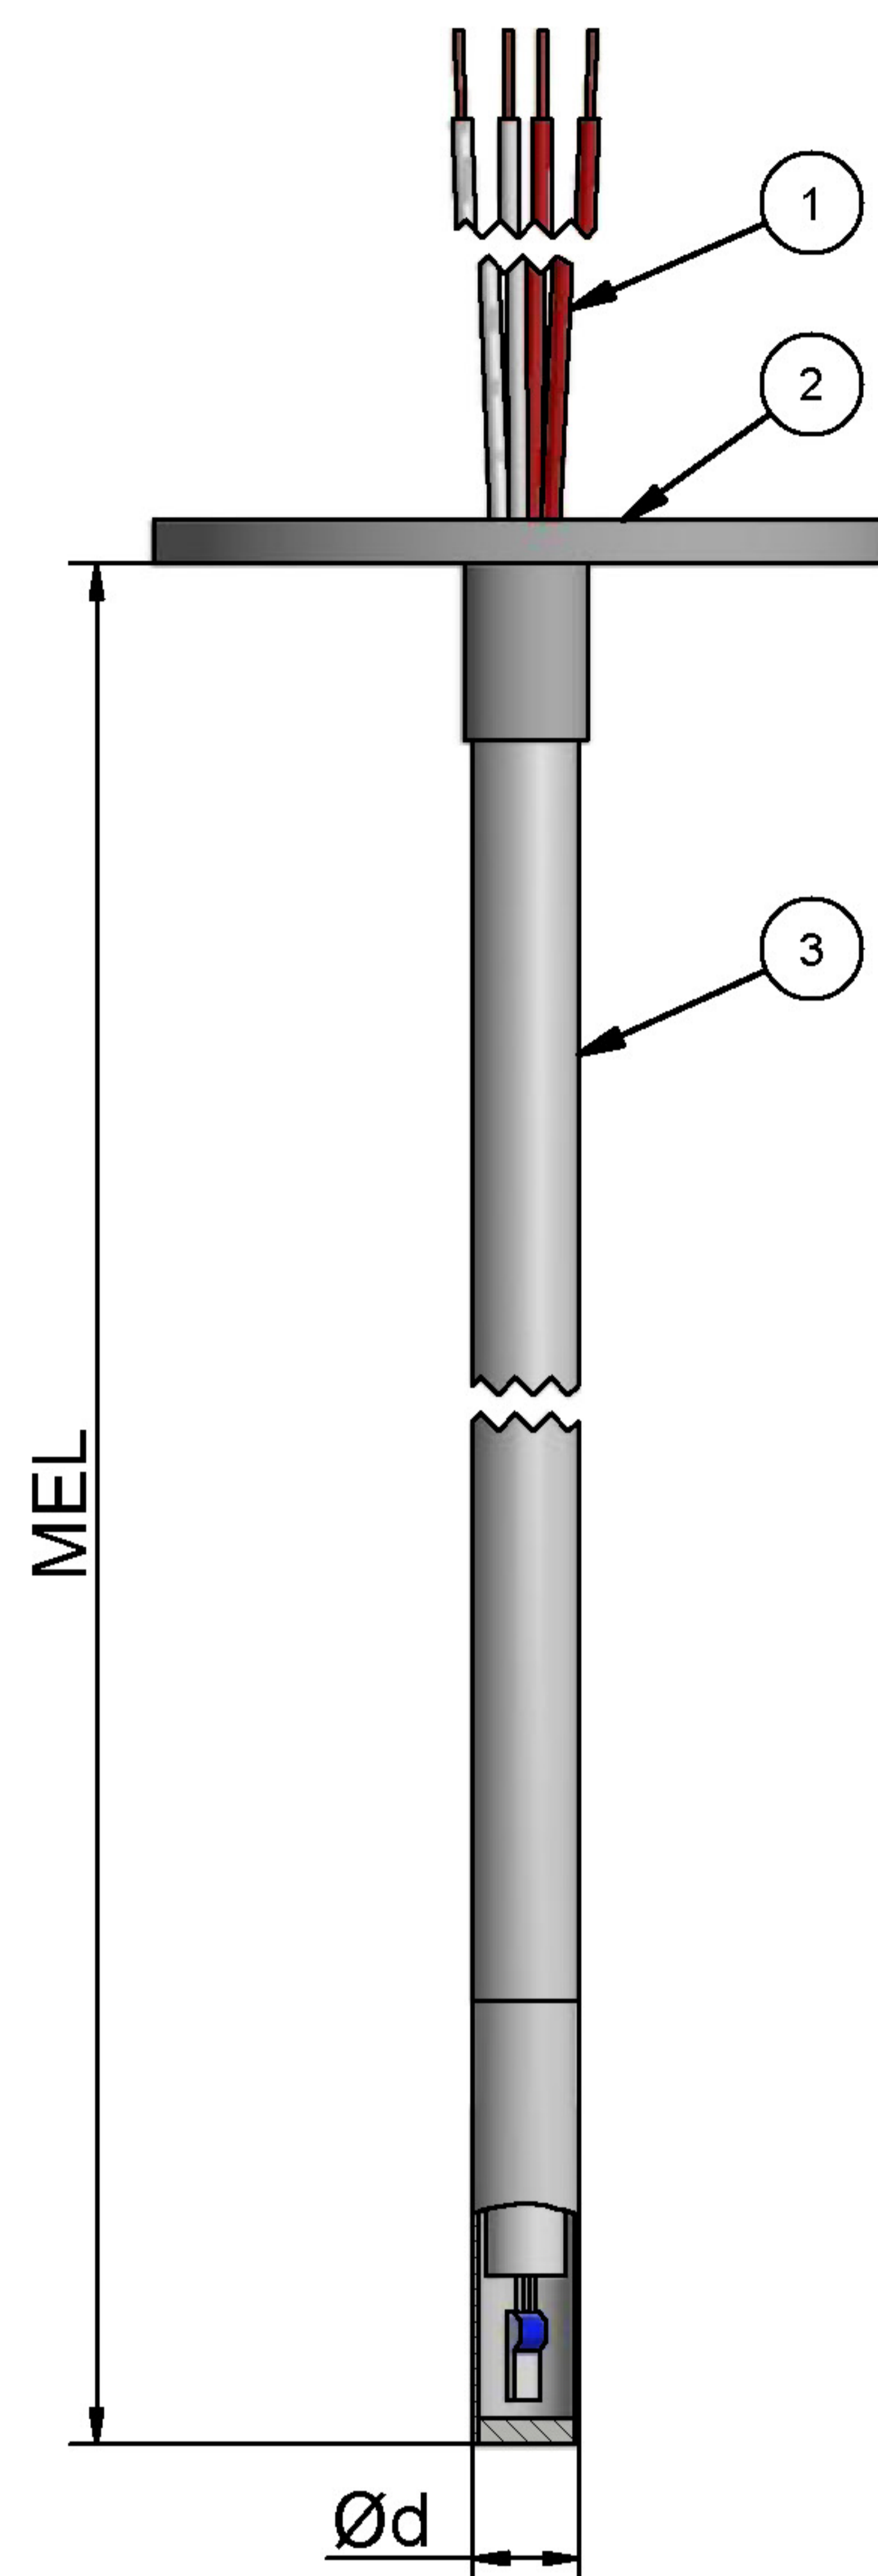

fig. 1
Reckmann GmbH temperature sensors (R58®) are used exclusively for measuring process temperatures in solid, liquid or gaseous media. The exchangeable measuring insert (fig. 1) is, so to speak, the carrier of the sensor element of our R15 thermometers. The measuring insert with free ends (fig 1) is prepared for mounting a transmitter instead of the connection socket.
- **measuring insert** (fig. 1) according or similar to DIN 43735